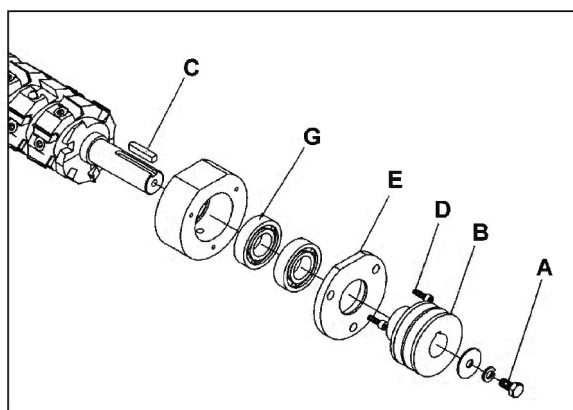

Figure 33
7. Loosen hex cap screw (A, Figure 33) and remove pulley (B, Figure 33) and key (C, Figure 33).
8. Loosen screws (D, Figure 33) on both sides and remove bearing cap plates (E, Figure 33).
NOTE: Figure 33 shows the pulley end of the cutterhead. The procedure is similar for breaking down the opposite end of the cutterhead – refer to assembly drawing on page 39 for the specific parts.
IMPORTANT: If the bearings (G, Figure 33) need replacement, it is strongly recommended this be done by qualified service personnel. The bearings are press fitted and must be removed with an arbor press.